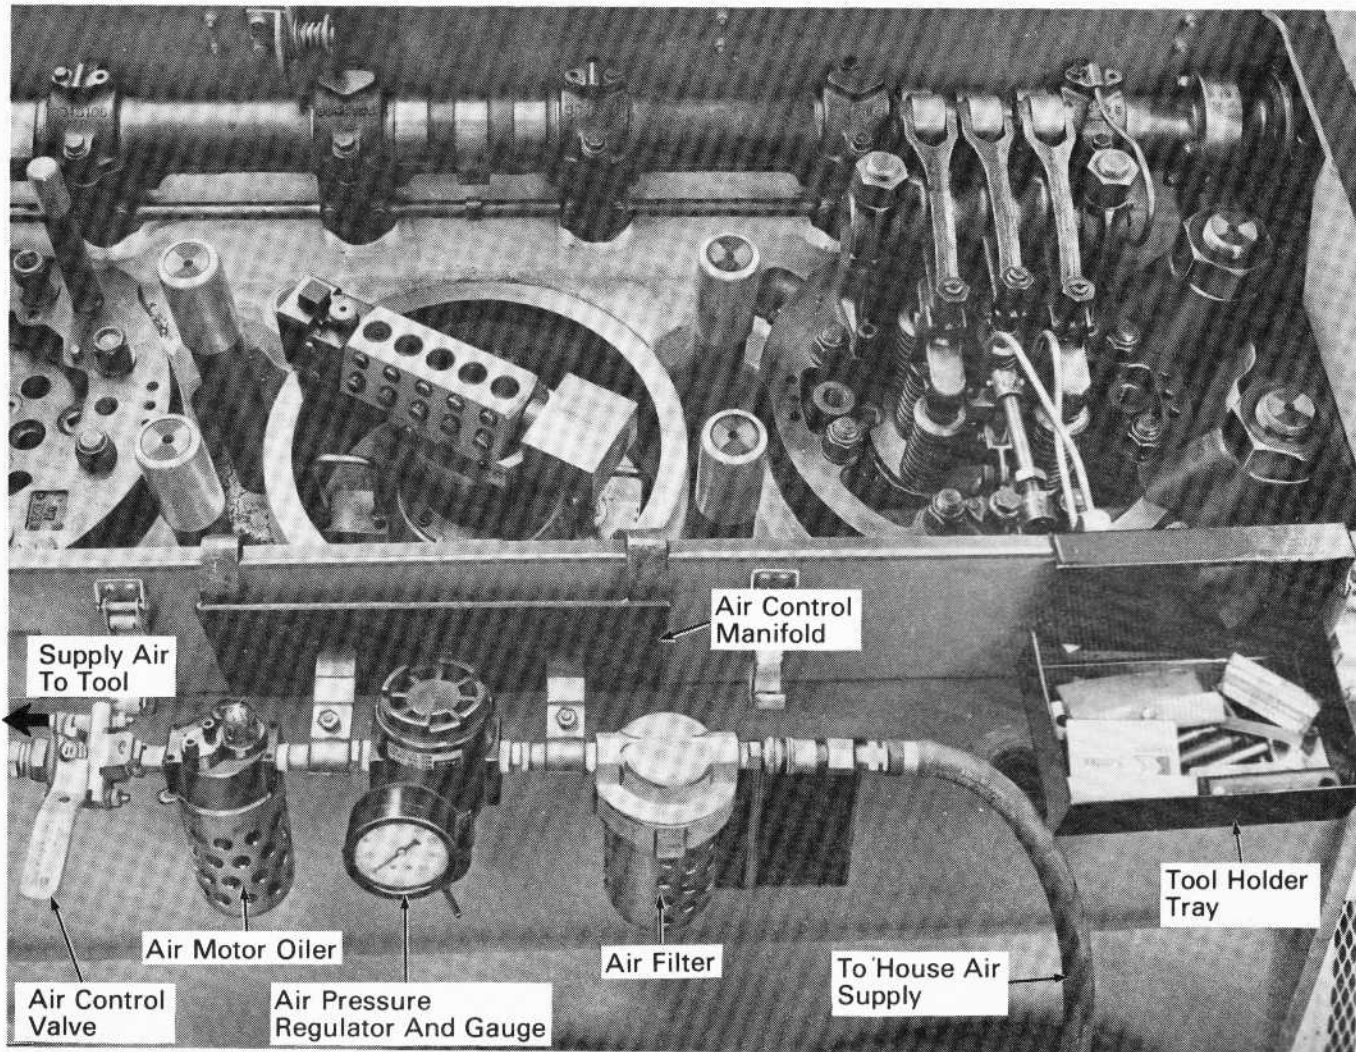

Fig.15 - Tool Operation
6. As shown in Fig. 15, hang air control manifold and tool holder tray on side of crankcase. Attach air control valve to air motor oiler. Connect short length of air hose from control valve to resurfacing tool, through air box handhole. With air control valve off, valve handle perpendicular to air pipe, attach supply air hose to air filter. A minimum of 621 kPa (90 psi) supply air is required.